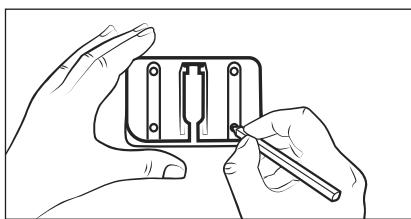

Fig. 5
- Use the wall bracket 18 to mark the four drill holes on the wall (see Fig. 5).